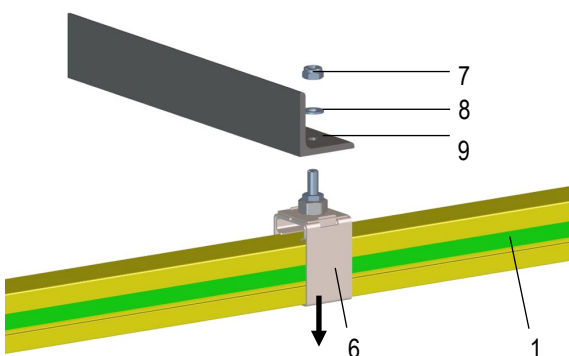

Fig. 55: Dismantling the ProfiDAT® profile
- Push a PE rail connector (10) onto the aluminum profile and align it with the marking.
- Secure the PE rail connector (10) with the threaded pins (3) M6 (8 Nm).
- Tighten the four lateral flange screws (2) M6 (10 Nm) on the connector.
- Push the hanger clamps (6) back onto the ProfiDAT® profile (1).
- Insert the ProfiDAT® profile (1) with hanger clamps (6) into the support structure (9) from below and secure the hanger clamps with the nut (7) and the washer (8) (see Fig. 55).